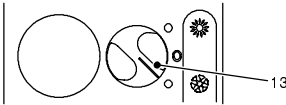

fig. 2.4
- 3 Switch on the boiler rotating the function switch 13 for central heating operation (fig. 2.4).
- 3 If the boiler is to be used for heating/ domestic hot water (combination boilers) or central heating (central heating only boiler), position the function switch (13) as in fig. 2.4